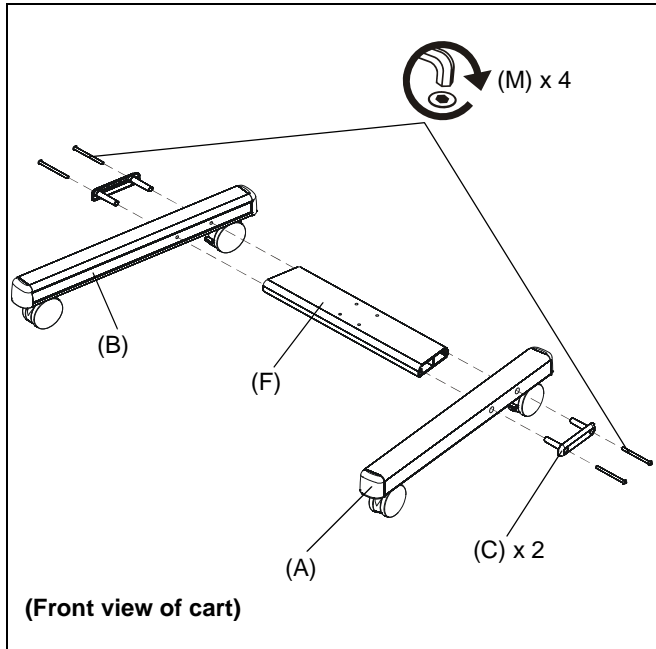

Figure 1
1. Assemble two legs (A) and (B) to the cart cross bracket (F) using two 5/16-18x4-1/4" button head cap screws (M) per leg. (See Figure 1)